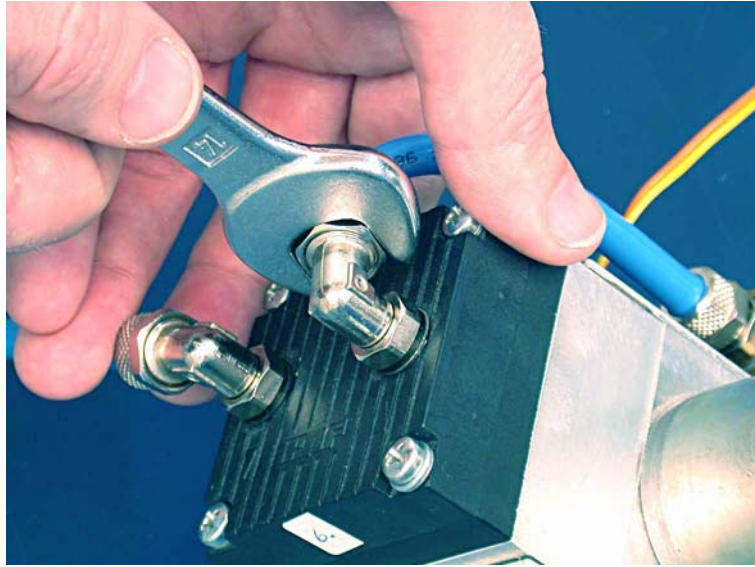

Figure 11-173. Unscrewing the shorter hose from a new model compressor
1. Disconnect the shorter of the pneumatic hoses from the top of nebulizer compressor. (The longer hose can remain connected to the compressor.) With older models of compressor, you use a wrench to push down on the inner collar of the connector. With newer models, you unscrew the collar as shown in Figure 11-173.
8. Refit the shorter pneumatic hose to the top of the compressor. A small amount of silicon grease applied to the **outside** of the hose enables the collar to turn without twisting the hose. (See Figure 11-173, *Unscrewing the shorter hose from a new model compressor*, on page 11-157.)